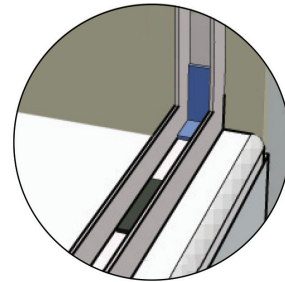

FIG 6.
- Silicone 'wall to floor' junction inside channels and press channel connector firmly into place (FIG 6).
- Place 4mm setting blocks in bottom floor channel - 2 per panel (FIG 6).